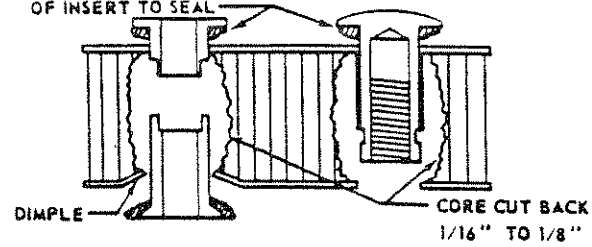

FIG. 2
- 5.2 Deburr hole in face sheets and dimple if flush-type insert is to be used. See Figure 2.
- 5.3 Apply adhesive to flange of inserts and install. See Figures 2 and 3.